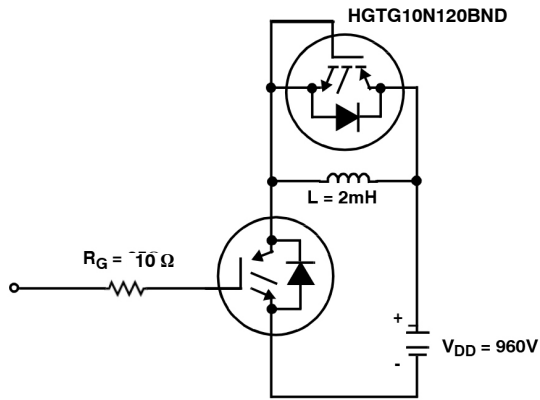

Figure 20. INDUCTIVE SWITCHING TEST CIRCUIT
| Current Turn-On Delay Time              | t d(ON) I  | IGBT and Diode at T J = 25°C,I CE = 10 A,V CE = 960 V,V GE = 15 V,R G = 10 Ω,L = 2 mH,Test Circuit (Figure 20)  | –    | 23   | 26   | ns    |
| Current Turn-On Delay Time              | t d(ON) I  | IGBT and Diode at T J = 150°C,I CE = 10 A,V CE = 960 V,V GE = 15 V,R G = 10 Ω,L = 2 mH,Test Circuit (Figure 20) | –    | 21   | 25   | ns    |